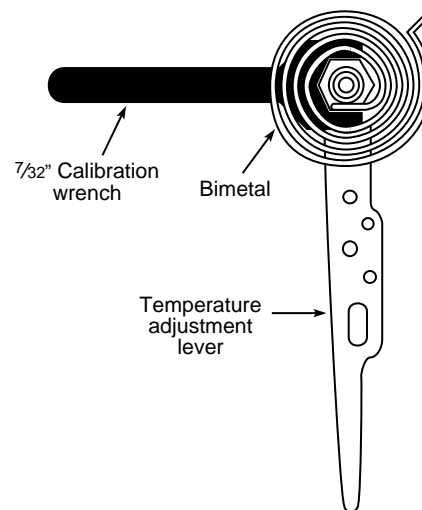

Figure 7. Calibrating thermostat
3. Remove thermostat cover. Slip  $\frac{7}{32}$ " wrench onto hex nut beneath bimetal. While holding temperature adjustment lever stationary, turn hex nut clockwise until mercury shifts to the right end of the tube (see fig. 7).
7. Slip  $\frac{7}{32}$ " wrench onto hex nut. While holding temperature adjustment lever stationary, turn hex nut counter-clockwise until mercury just barely shifts to the left end of the tube (see fig. 7).